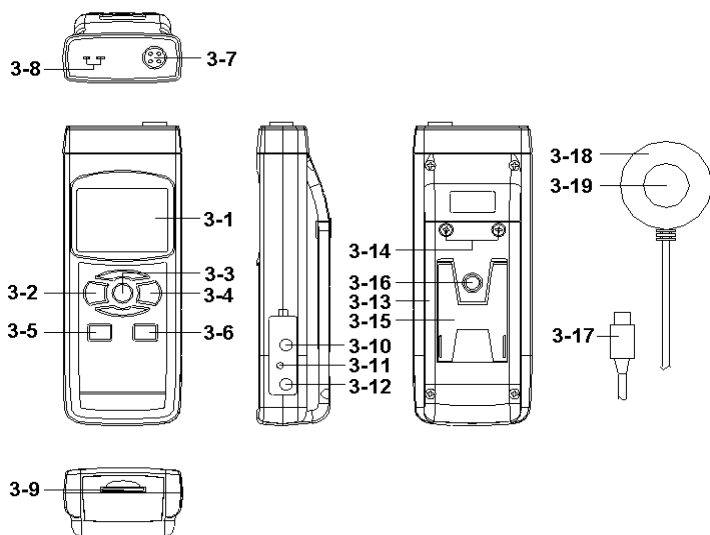

Fig. 1
(3-2, Fig. 1) momentarily.
** Pressing the " Power Button " (3-2, Fig. 1)
Pressing the " Function Button " (3-3, Fig. 1)
just release the " Function Button " (3-3, Fig. 1), the
- b. Install the " UVA Probe Plug " (3-17, Fig. 1) into the " Probe Input Socket " (3-7, Fig. 1).
- c. Power on the meter by pressing the " Power Button " (3-2, Fig. 1). The display will show the " mW/cm^2 " unit. Now the meter is ready for making the UVA light measurement.
- d. Use the fingers to hold the " UVA Sensor body " (3-18), face the " UVA Sensor " (3-19, Fig. 1) against to the measurement UVA light source directly. The display will show the UVA light measurement value.
During the UVA measurement, if blank the UVA Sensor (3-19, Fig. 1) , the Display not show zero value, press the " Zero Button, Logger Button " (3-6, Fig. 1) > 3 seconds, Display will show zero value.
- b. Not install the " Probe Plug " (3-17 Fig. 1) into the " Probe Input Socket " (3-7, Fig. 1).
- c. Plug the Thermocouple Temp. Probe (Type K Temp. probe or Type J Temp. probe, optional) into " Type K/J Probe Input Socket " (3-8, Fig. 1)
During the measurement, press the " Hold Button " (3-3, Fig. 1) once will hold the measured value & the LCD will display a " HOLD " symbol.
- 1) The data record function records the maximum and minimum readings. Press the " REC Button " (3-4, Fig. 1) once to start the Data Record function and there will be a " REC. " symbol on the display.
- a) Press the " REC Button " (3-4, Fig. 1) once, the " REC. MAX. " symbol along with the maximum value will appear on the display.
If intend to delete the maximum value, just press the " Hold Button " (3-3, Fig. 1) once, then the display will show the " REC. " symbol only & execute the memory function continuously.
- b) Press the " REC Button " (3-4, Fig. 1) again, the " REC. MIN. " symbol along with the minimum value will appear on the display.
If intend to delete the minimum value, just press the " Hold Button " (3-3, Fig. 1) once, then the display will show the " REC. " symbol only & execute the memory function continuously.
After power ON, the " LCD Backlight " will light automatically. During the measurement, press the " Backlight Button " (3-2, Fig. 1) once will turn OFF the " LCD Backlight ".
Prepare a " SD memory card " (1 G to 16 G, optional), insert the SD card into the " SD card socket " (3-9, Fig. 1). The front panel of the SD card should face against the the down case.
Press the " REC Button (3-4, Fig. 1) once , the LCD will show the text " REC ", then press the " Logger Button " (3-6, Fig. 1), the " REC " will flashing, at the same time the measuring data along the time information will be saved into the memory circuit.
During execute the Datalogger function , if press the " Logger Button " (3-6, Fig. 1) once will pause the Datalogger function (stop to save the measuring data into the memory circuit temporally). In the same time the text of " REC " will stop flashing.
If press the " Logger Button " (3-6, Fig. 1) once again will execute the Datalogger again, the text of " REC " will flashing .
During pause the Datalogger, press the " REC Button " (3-4, Fig. 1) continuously at least two seconds, the " REC " indication will be disappeared and finish the Datalogger.
Press the " REC Button (3-4, Fig. 1) once , the LCD will show the text " REC ", then press the " Logger Button " (3-6, Fig. 1) once, the " REC " will flashing once and Beeper will sound once, at the same time the measuring data along the time information will be saved into the memory circuit. The lower Display will show the Position (Location) no. and saved into the SD card too.
During execute the Manual Datalogger, press the " ▼ Button " (3-5, Fig. 1) the lower no. (position no.) will flashing. It can use the " ▲ Button " (3-6, Fig. 1) or " ▼ Button " (3-5, Fig. 1) to set the measuring position (1 to 99, for example room 1 to room 99) to identify the measurement location , the lower Display will show P x ($x = 1$ to 99). After the position no. is selected, t press the " Enter Button " (3-4, Fig. 1) to confirm.
Press the " REC Button " (3-4, Fig. 1) continuously at least two seconds, the " REC " indication will be disappeared and finish the Datalogger.